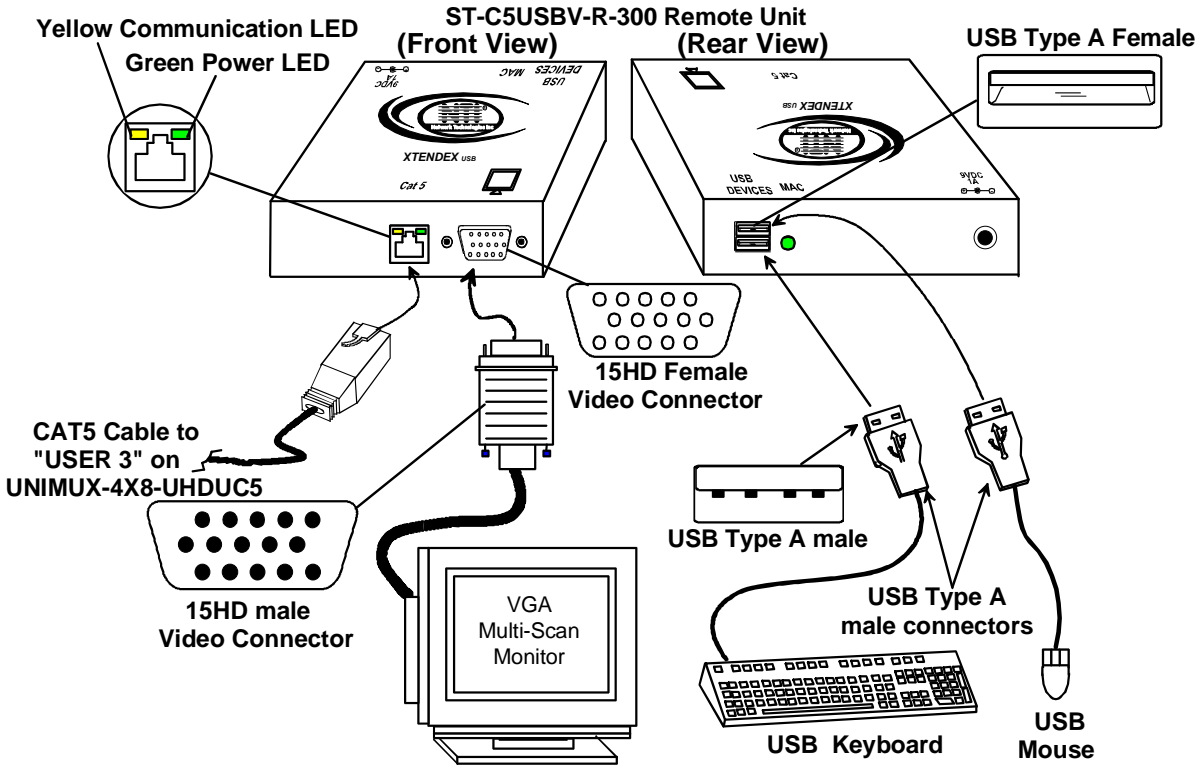

Figure 9- Connect monitor and devices to ST-C5USBV-R-300
2. Connect the monitor cable to the 15HD female VIDEO port on the ST-C5USBV-R-300. (See Figure 9)
6. Turn ON the monitor. The monitor will display an image coming from the CPU that User 3 is connected to via the UNIMUX switch. The yellow communication LED on the Remote Unit (see Figure 9) should blink indicating there is proper communication with the UNIMUX.